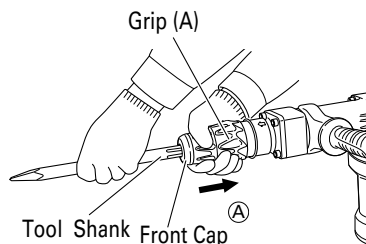

Fig. 2
- (1) Clean the shank portion of the tool.
- (2) As shown in Fig. 2, pull grip (A) in the direction of Ⓐ, and insert the tool into a hole of the front cap.
- (2) Release grip (B) and turn the tool, and make sure that it is locked completely.
As shown in Fig. 2, pull grip (A), and pull out the tool.